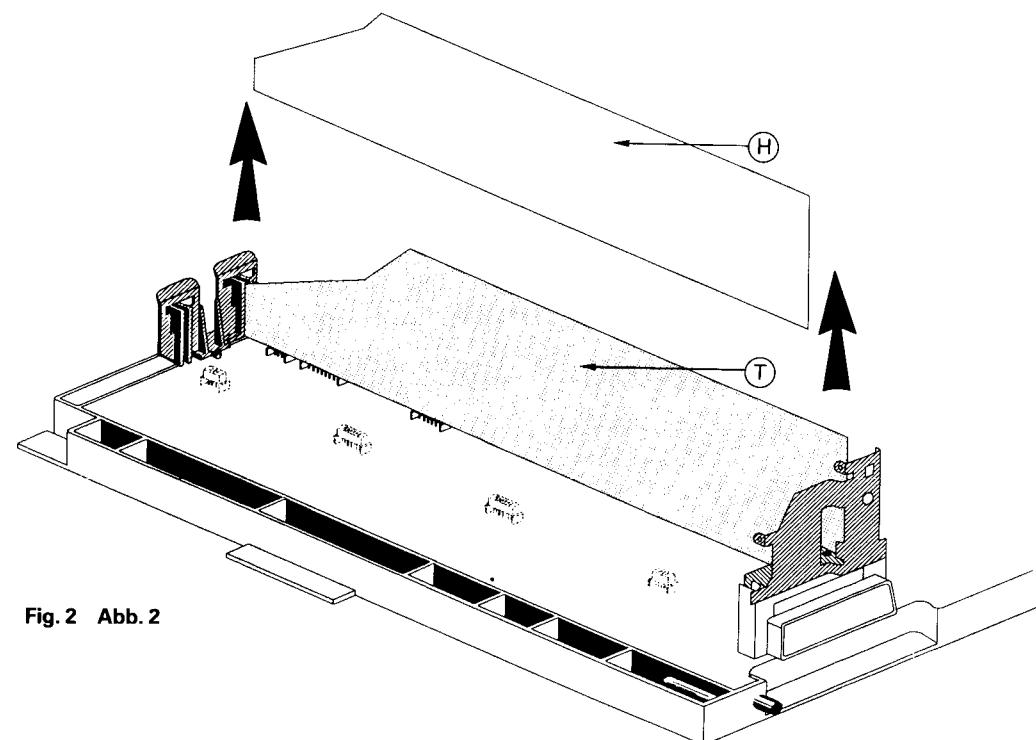

Fig. 2 Abb. 2
2. Remove (H) PCB to allow access to main (E) board. Refer to Fig. 2